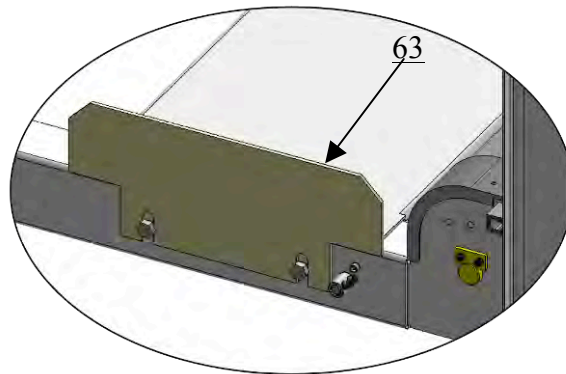

Fig.38
P. Install Rear wheel stop plates (See Fig. 38)